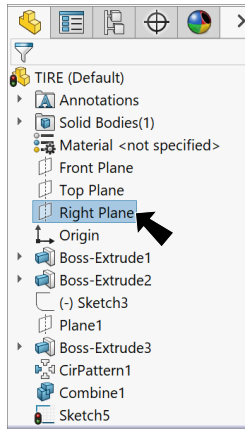

Fig. 44
Step 13. Click **Right Plane**  in the Feature Manager to select plane, **Fig. 44**.